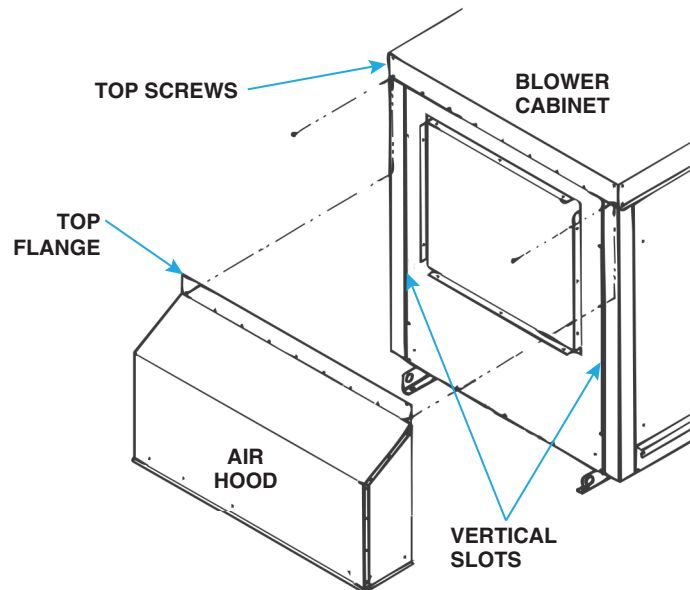

Figure 1. Air Hood Installation
1. Remove entire row of top screws (see Figure 1) that secure cabinet top on inlet air side of blower cabinet.
2. Slide air hood top flange (see Figure 1) beneath lip of cabinet top and insert air hood sides into vertical slots (see Figure 1) in blower cabinet. Ensure that top flange is between cabinet top and end panel.